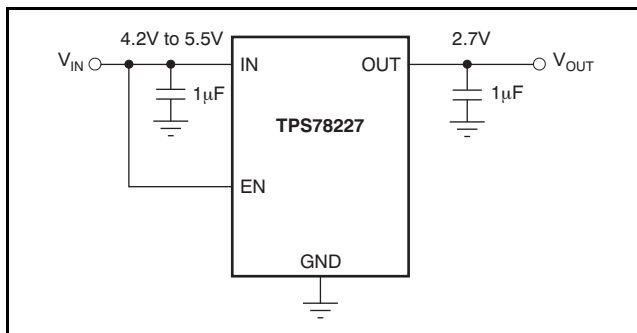

Figure 22. Circuit Showing EN Tied High when Shutdown Capability is Not Required
The enable pin (EN) is active high and is compatible with standard and low-voltage CMOS levels. When shutdown capability is not required, EN should be connected to the IN pin, as shown in Figure 22. The TPS782 series, with internal active output pull-down circuitry, discharges the output to within 5% V_{OUT} with a time (t) shown in Equation 1: